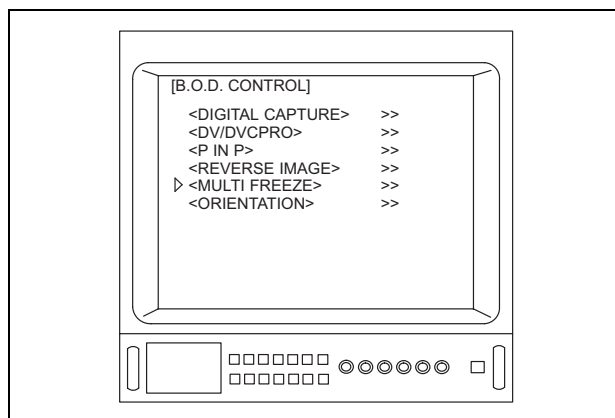

Figure 5.127
4. Depress the menu switches "" or "", or the "" key on the keyboard to move the arrow "" to "MULTI FREEZE" (see Figure 5.127).
Depending upon which B.O.D.s are installed in the OTV-S7V, the menu shown in Figure 5.127 may appear different from that displayed on the video monitor.
4. Depress the menu switches “◀” or “▶”, or the “↑/↓/←/→” key on the keyboard to move the arrow “▷” to “MULTI FREEZE” (see Figure 5.127).